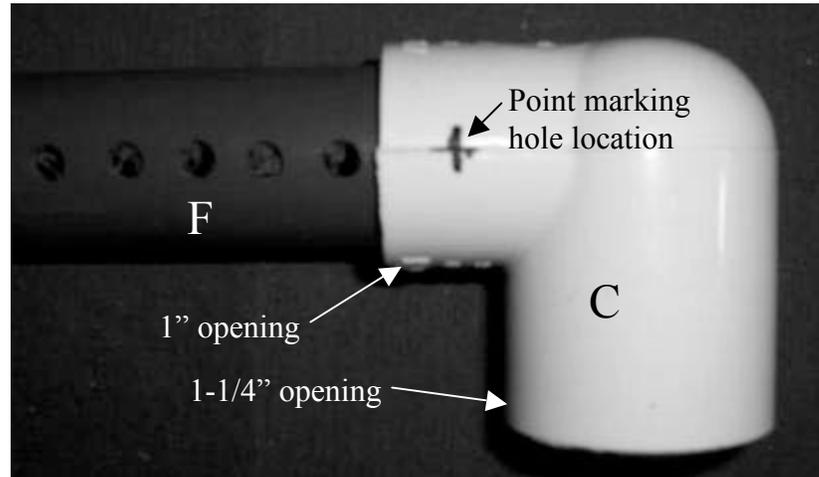
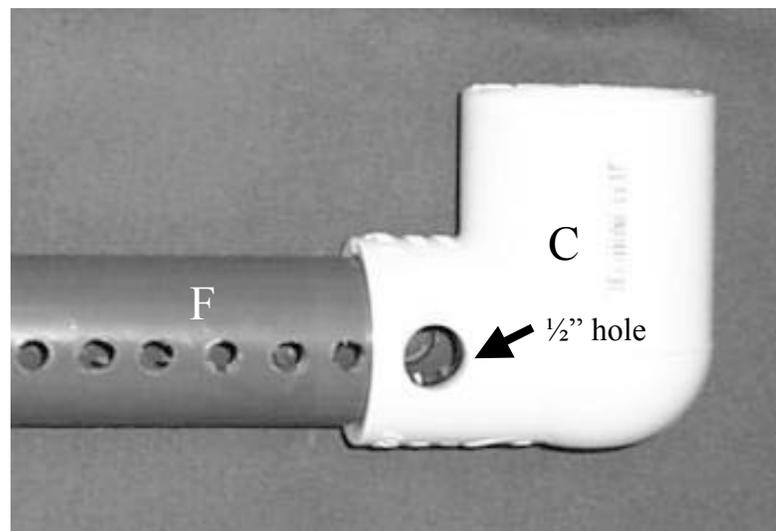

FIGURE 18 – Step 14 - Marking the Hole to be Drilled.
FIGURE 19 – Step 14 - 1/2 in Hole for Axle.
**Step 14.** Mark a point 1/2 in from the intersection and mid-plane (Figure 18) of the Part F and Part C (1 in opening side) connection to drill a 1/2 in hole for the axle (Figure 19). Drill a 1/2 in diameter hole through both walls of Part F and C assuring that the hole is perpendicular to the surface of Part C.